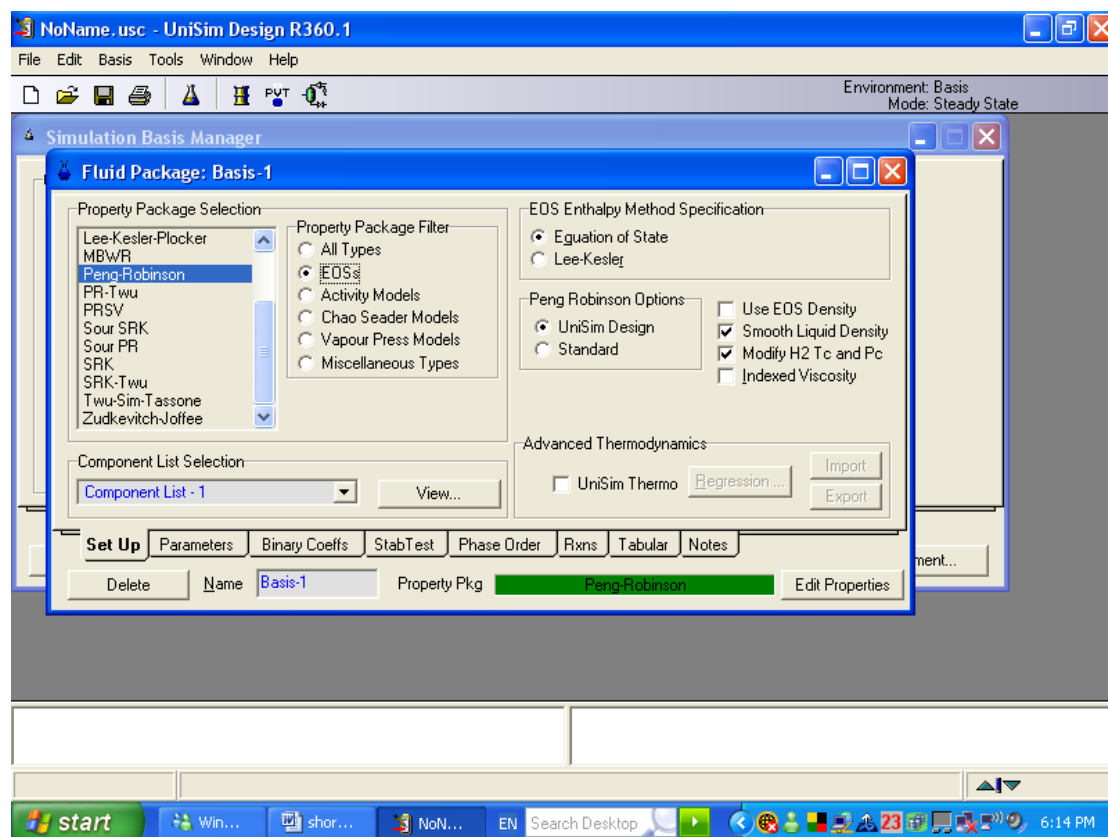

Figure K-10. Snapshot of Simulation Basis Manager window listing Property Package Selection.
Step 10. Choose the required property package from the **Property Package Selection** menu. For this example, choose **Peng Robinson** as shown in Figure K-10. Select **EOSs** from **Property Package Filter** and close the window.